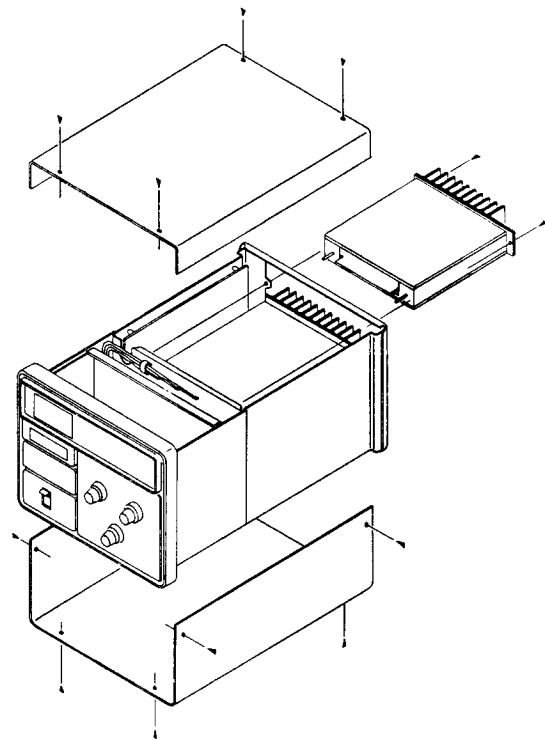

Figure 1
1. Remove the twelve screws affixing the top and bottom covers of the FTV-901R, and remove the covers (Figure 1).